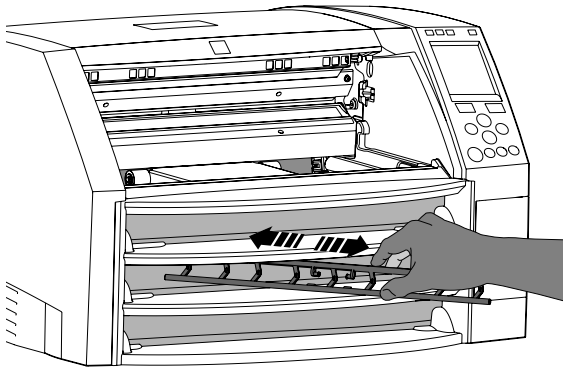

Figure 5
- ◆ Open cassette flap and carefully slide the media funnel out through the front of the imager as shown (figure 5).
- ◆ Slide the new funnel in as shown in figure 5.